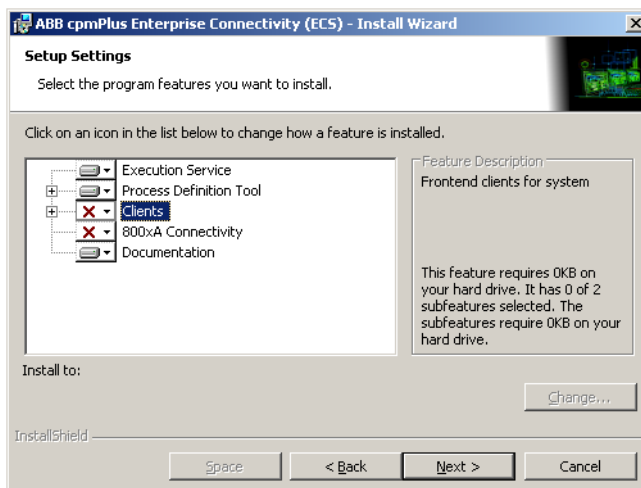

Figure 4. ECS 4.0 Setup Settings
- a. When the Setup Settings dialog box is shown, install only the Execution Service, Process Definition Tool, and Documentation features (Figure 4). DO NOT install the Clients and 800xA Connectivity features. Although ECS 4.0 is a distributed system, it is recommended to install all the required features of ECS 4.0 on the Asset Optimization Server node.